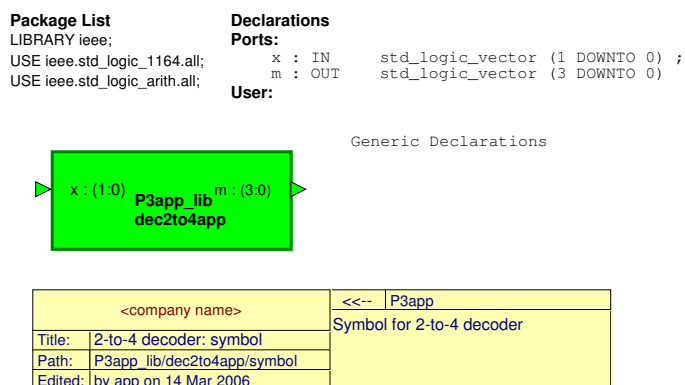

Figure 2: Symbol of a 2-to-4 decoder
- Modify the symbol to look similar to that in Figure 2 Such a symbol can be now use in you future designs.